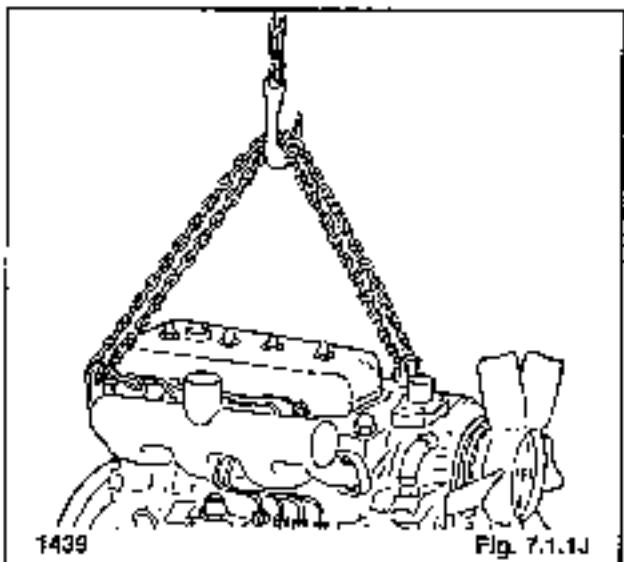

Fig. 7.1.1J
16. Connect chains to the lifting lugs located at the front and rear of the engine. Using a chain hoist lift the engine and remove it out through the rear of the loader main frame (Fig. 7.1.1J).